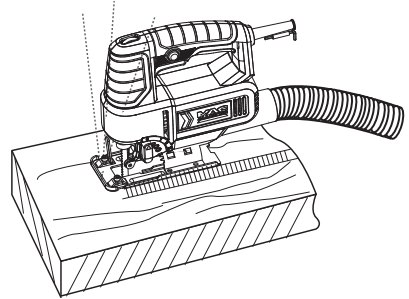

Fig. 15
- > Adjust the required cutting angle; ensure the hex bolts (20) are properly tightened. For accurate work, first perform test cuts on offcuts of the workpiece. Check the cut and reset the angle until the correct cut is achieved.
- > Place the base plate (11) flat on the workpiece and push the product forward at an even speed (Fig. 15).